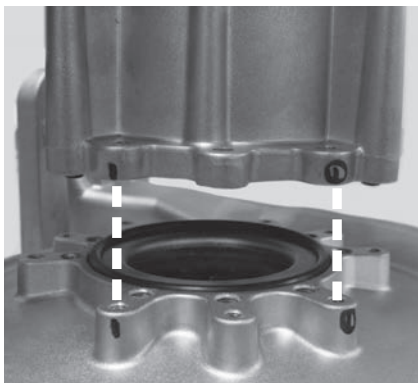

Figure 106 - Proper venturi and fan alignment
- 17** Install the new venturi to the fan. Reference the orientation mark on the old venturi to position the new venturi properly as shown in Figure 106. Use the screw hole marks on the fan to properly install the four (4) screws previously removed in **Step 13**.